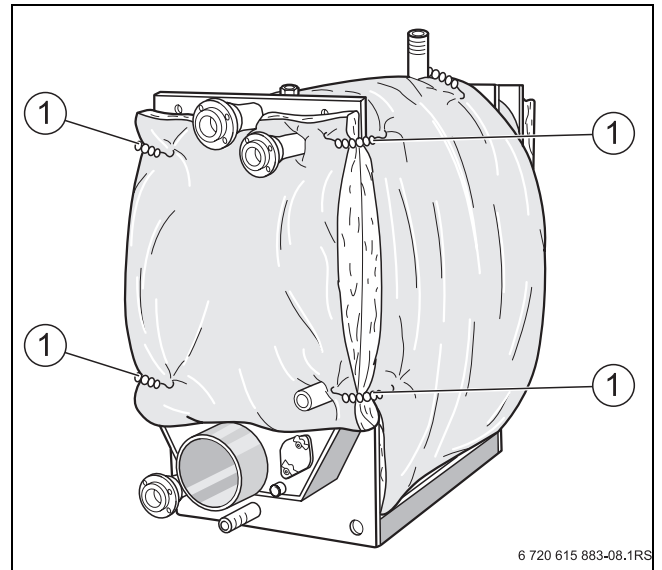

Fig. 9 Positioning and securing the rear insulation section
- ▶ Place the rear insulation section onto the rear of the boiler in the position dictated by the openings and secure to the right and the left onto the wrap-around insulation with 4 spring hooks (→ Fig. 9).